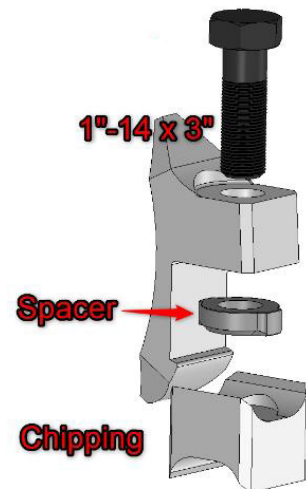

Figure 11
Chipping teeth are installed with a spacer. The spacer can sit only one (1) way. See Figure 11.
Bolts for chipping teeth are 3” (76 mm) long [Figure 11] and must be torqued to 400 lbf·ft (542 N·m).